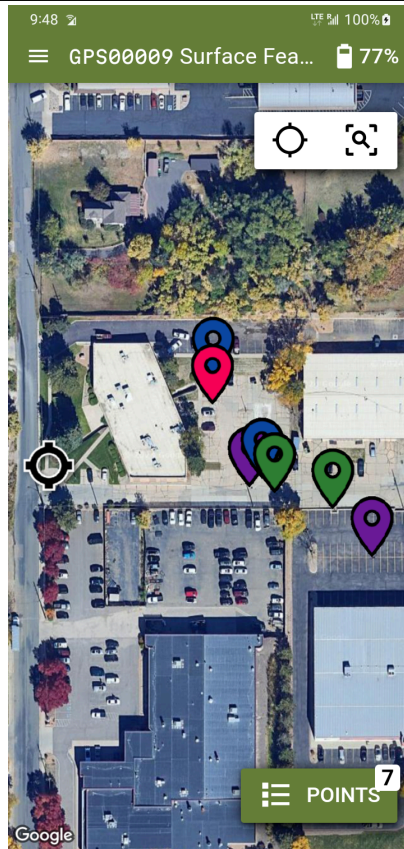

Figure 11: Surveyor Mobile above-ground survey map view. Touch  (*Menu*) and choose **Overview** to return to the checklist and mode selection.
- A satellite view map will be displayed, as in Figure 11 (requires mobile internet, see Section 2.1).